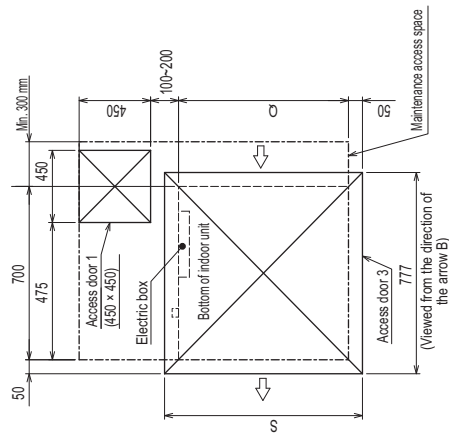

Fig. 4
- Create access door 1 diagonally below the electric box and access door 3 below the unit as shown in Fig. 4.